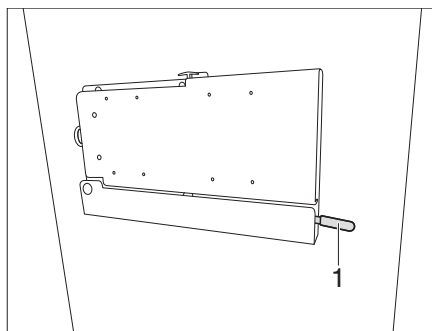

Fig. 133 Holder with jointed arm (variant 3)
- Pull down the lever (Fig. 133,1).
- Push the lever (Fig. 133,1) back up to lock.